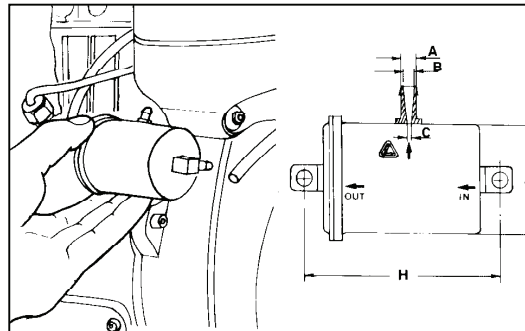

Figure 29
4. Reassemble in reverse order. See figure 29.